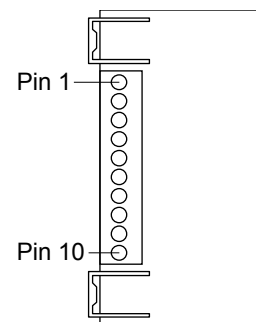

Figure 23 Relay card connector (viewed from connector side)
3. Using the information in the tables above, wire your signal cables to the terminal block (Figure 23).